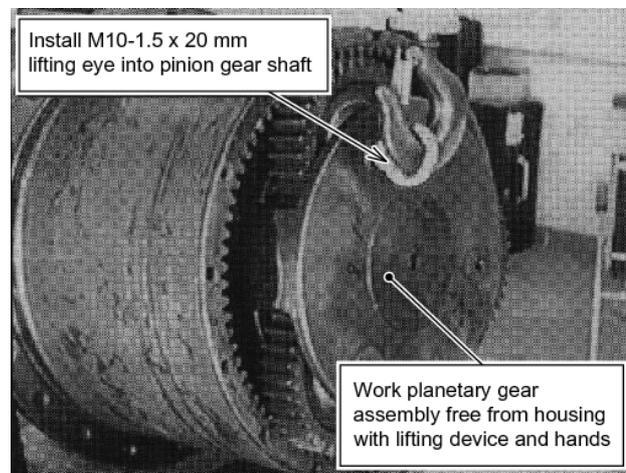

Fig. 8-8
13. Attach the overhead lifting device to the M10 lifting eye and remove most of the slack from the cable or chain. See Fig. 8.8.
14. Carefully by hand work the planetary gear assembly free from the housing. See Fig. 8.8.